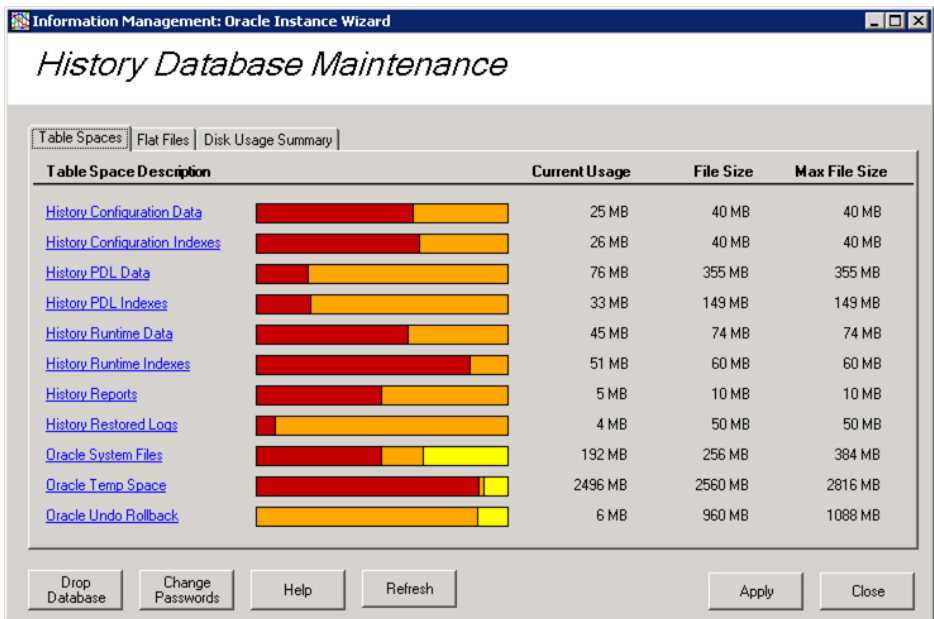

Figure 84. Instance Maintenance Wizard
1. Launch the History Database Maintenance wizard, Figure 84.
1. Choose **Start>Programs> ABB Industrial IT 800xA>Information Mgmt>History> Oracle Instance Wizard**. The wizard, Figure 84, supports the activities described in Table 17.